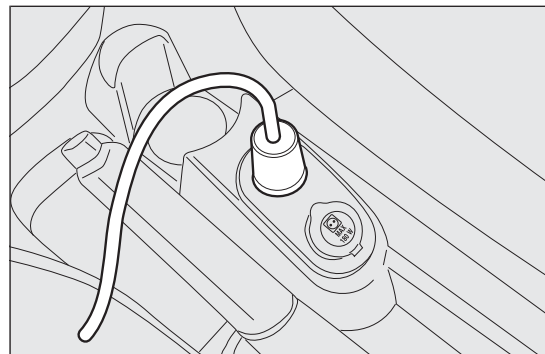
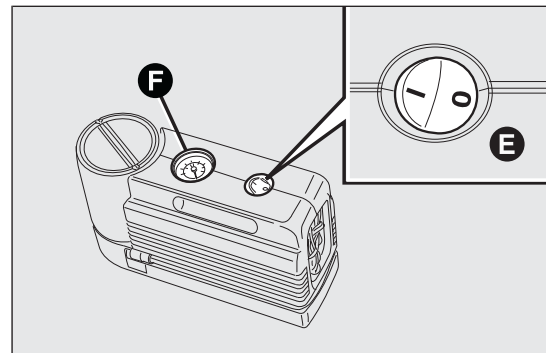

fig. 129
fig. 130
- ❑ make sure that switch E fig. 130 of the compressor is at 0 (off), start the engine, insert plug D fig. 129 in the cigar lighter socket and turn the compressor on by setting switch E fig. 130 to I (on). Inflate the tyre to the pressure specified in the "Cold tyre pressures" paragraph in the "Technical specifications" section. For a more accurate reading, check pressure gauge F fig. 130 with the compressor off;